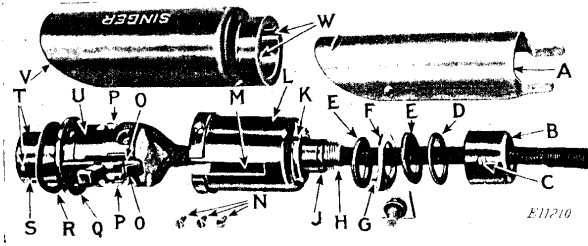

FIG. 5. SHOWING SCREW CONNECTIONS OF SINGERLIGHT
**Singerlight.** Disconnect the Singerlight leads from pins Nos. 1 and 3 of the three-pin terminal. Draw the reflector (A, Fig. 5)
from Singerlight shade (V). Turn the shade until the pins (T) on Singerlight lamp socket (S) reach the slots (W) on the inside of Singerlight shade base, and draw the shade from the lamp socket. Loosen screw (C) in Singerlight nipple cap (B), and unscrew the nipple cap. Draw the nipple cap (B) along the leads and away from the Singerlight shell (L) as shown in Fig. 5. Remove the three screws (N) which fasten the shell (L) to the lamp socket body (U), and draw the shell (L), fibre washer (D), Singerlight bracket (F) and the two felt washers (E), along the leads and away from the lamp socket body (U) as shown in Fig. 5.
When reassembling, push the shell (L) tight against the flange (Q) of the lamp socket body (U) and with the slot (M) engaged by the grooves (O) in the cover plate. Insert and tighten the three screws (N). Put the felt washers, bracket and fibre washer on the screw nipple bushing (J) and against the base of the shell (L) in the following order and as indicated in Fig. 5:
Before replacing Singerlight shade (V) and reflector (A), be sure to have the spring washer (R) on the lamp socket (S), as shown in Fig. 5.
**NOTE**—The essential difference between the latest type Singerlight (covered by the foregoing description and shown in Fig. 5) and the previous type, is that the older type of Singerlight is arranged with the switch handle at the top instead of, as at present, with the handle at the bottom. Another difference is that the bracket pin (G), of the previous type Singerlight, engages one of four notches in the nipple cap (B) instead of notch (K) in the shell, as shown in Fig. 5.